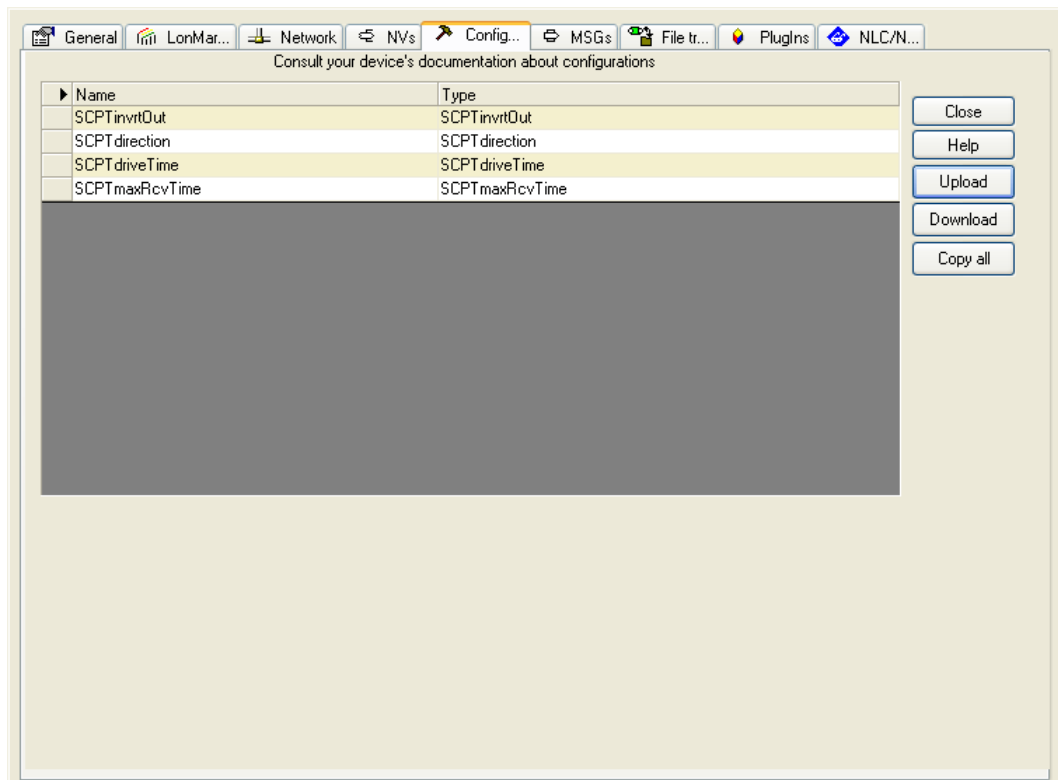

Figure 89: Configuration Tab for Configuration Properties in NL220.
2. Press the **Upload** button on the Configuration tab of the device properties (see Figure 89).